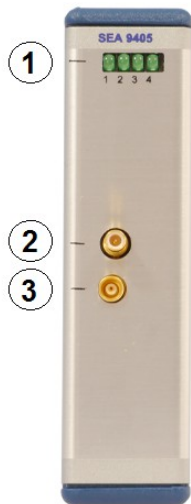

Fig. 1: Front Side
On the front side the module provides LEDs (1) to indicate the status of the module, as well as sockets (2), (3) to connect accessory, refer to Fig. 1. Additionally, on the imprinted side a DIP switch (4) is available to control behavior of the backup battery.